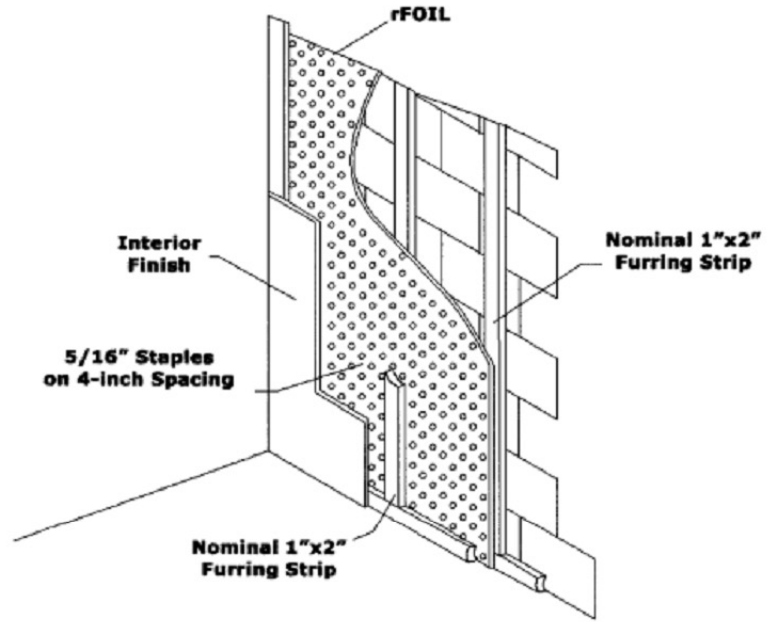

FIGURE 3—DOUBLE FURRED BLOCK WALL APPLICATION
4.1.2.3 Furring Strip Block Wall Application: The block wall assembly consists of nominal 1-by-2 furring strips attached vertically at a maximum of 16 inches (406 mm) on center to minimum 8-inch-thick (203 mm) block wall. The insulation is installed parallel to the furring strips using fasteners noted in Section 4.1 of this report. A second layer of 1-by-2 furring strips is placed over the insulation and directly over the existing furring strips using 1¹/₄-inch-long (38 mm) nails. Minimum 1¹/₂-inch-thick (12.7 mm) gypsum wallboard complying with ASTM C36 is attached over the furring strips in accordance with the applicable code to create two 3³/₄-inch (19 mm) air spaces. Inside surface-to-surface thermal resistance of the assembly is noted in Table 1 of this report. See Figure 3 of this report for an illustration of the assembly.